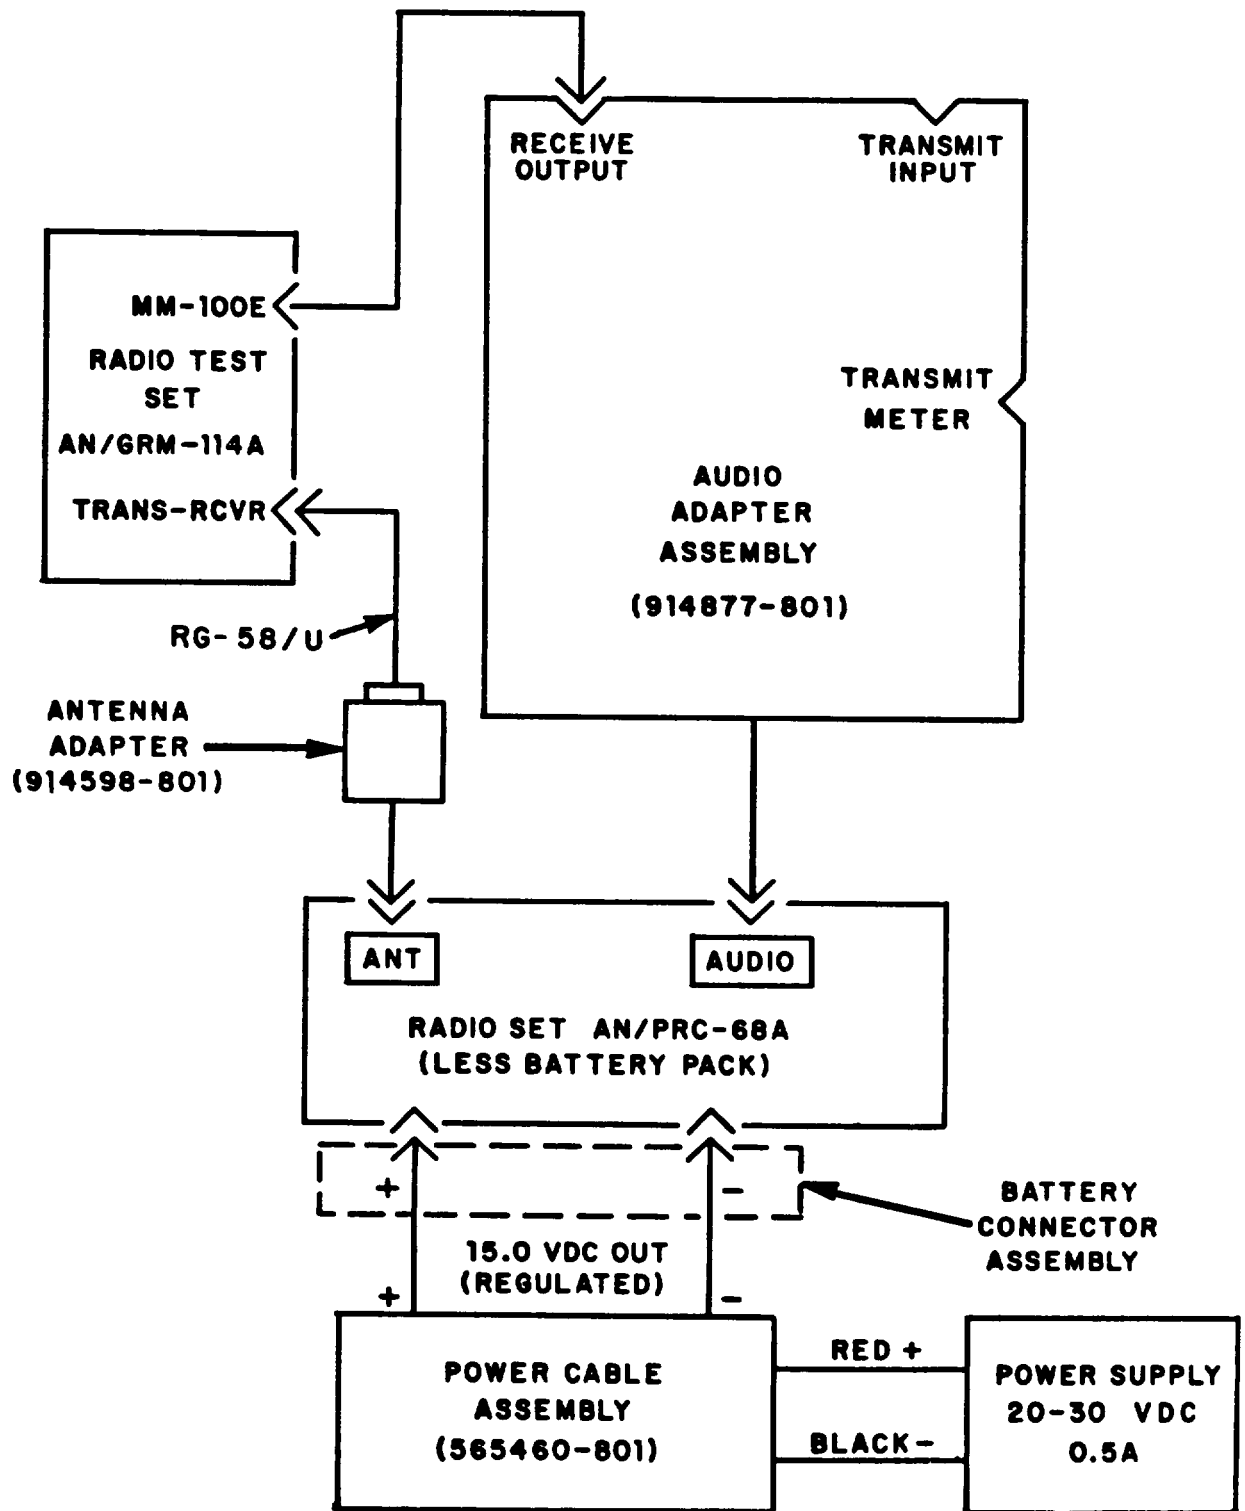

Figure 3-2. Receiver Diagnostics Test Setup.
b. The test setup requirements are shown in figures 3-2 through 3-4. The maintenance kit required for the test setup is described in table 3-1.
3	Connect radio set and test equipment (fig. 3-2). Apply power and turn radio set ON. Set ANT MATCH switch to 0 and R/T FILTER switch to correct operating band position, then tune radio set to operating frequency of 30.050 MHz (refer to para 2-10 for setting frequency).